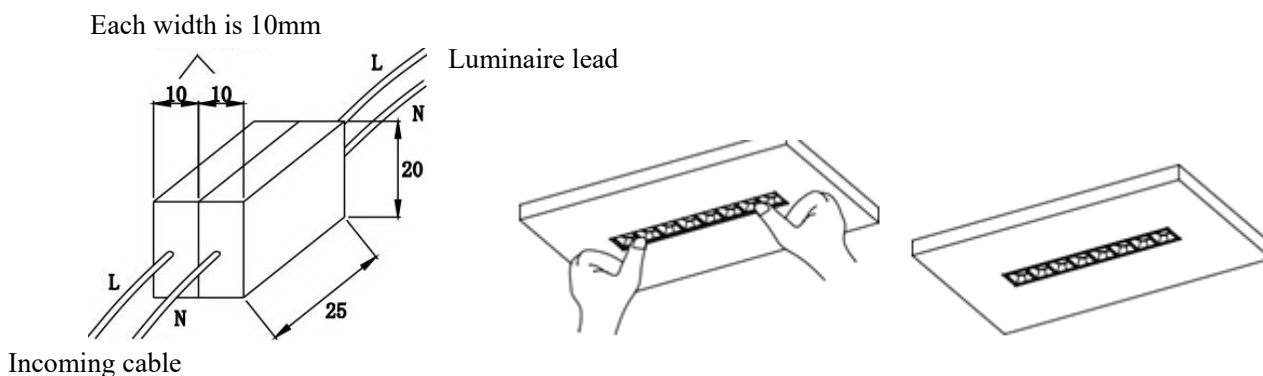

Figure 2
3. 2. The driver of the lamp comes with a lead wire, and the connection lead needs to be connected with an independent terminal block (refer to Figure 2 schematic connection), and the size of each terminal subseat should not be less than 10x20x25mm.